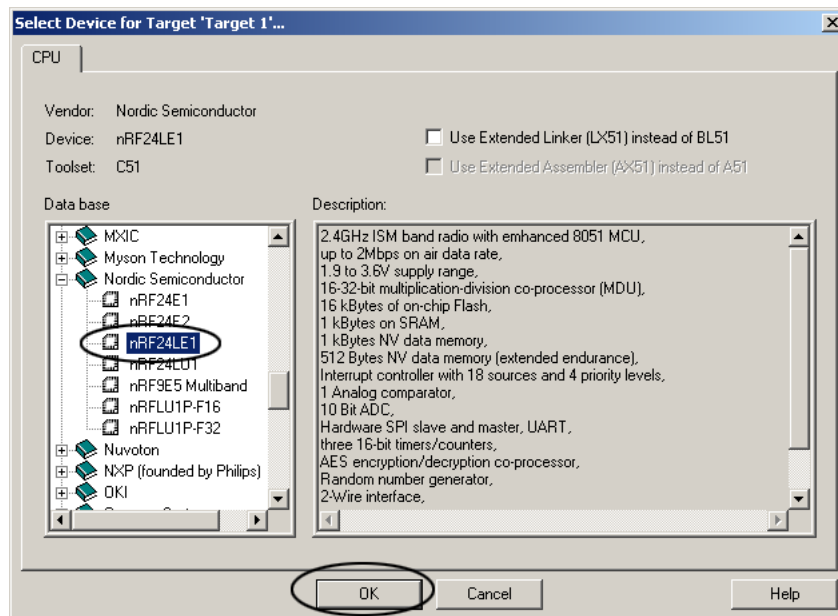

Figure 4. Selecting the correct device
This tutorial can also be used as reference when developing with other nRF devices with an 8051 microcontroller. In such cases you will need to switch to different nRF devices as shown in Figure 4. on page 7. The setup of the compiler, programming the device and debugger are all carried out in the same way as for the nRF24LE1.
5. Choose the device you want to start developing with (see device encircled in Figure 4.) For your project you will use the nRF24LE1. If you are using the full version of Keil uVision PK51 you can also choose to use the extended linker/assembler. However for this project you will use the evaluation version of the Keil compiler.